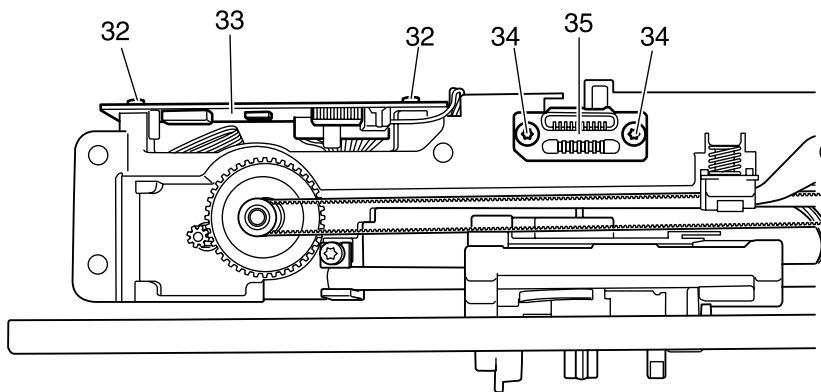

**Fig. 17**
4. Unscrew both fastening screws 32 of the circuit board 33 ( Fig. 17).
21. Screw down the CT-Connector 35 with the Torx screws 34 (Fig. 17).